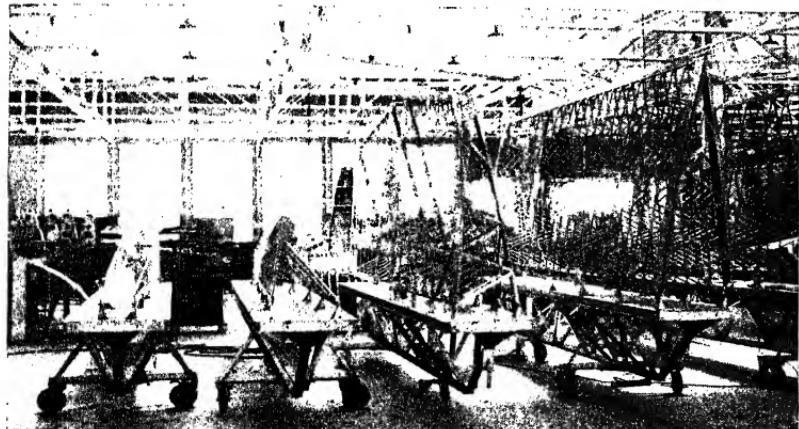

FIG. 14.—How trailing edges are handled at San Diego. (Official U.S. Navy Photograph.)
**Handling Wing Sections.**—Handling wing sections, both during their construction and afterward, requires care and special equipment. Several sections are seen in Fig. 14, with wing structures of various kinds. These